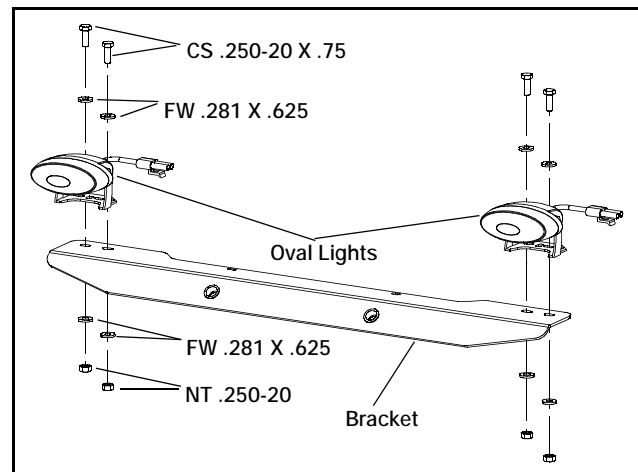

FIG. 12
- Assemble the oval lights to the bracket using the four .250" bolts, washers and nuts supplied. (FIG. 12)